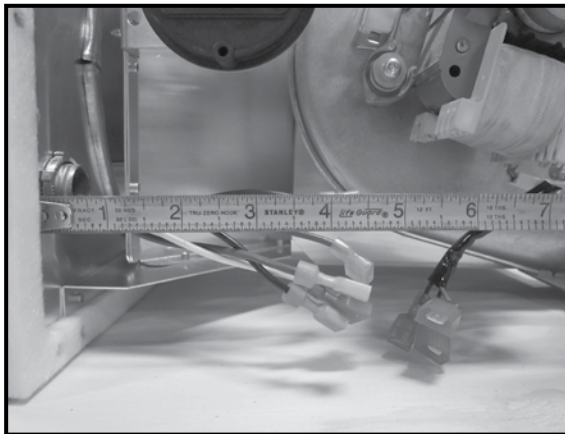

Figure 3.10
*NOTE: Make sure there is no more than 4 or 5 inches of wire extending through the back cap cover. See Figure 3.10.*